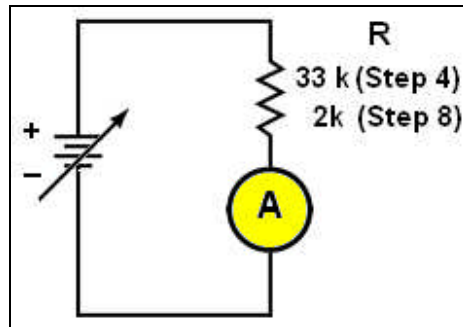

Fig. 1-1 Resistor Circuit for Steps 4 and 8
4. If the meter has current scales, connect the circuit shown in Fig. 1-1 and measure the current in the circuit. **The current is: _____ mA**
8. If the meter has current scale, construct the circuit shown in Fig. 1-1 using 2000 Ohm resistor.